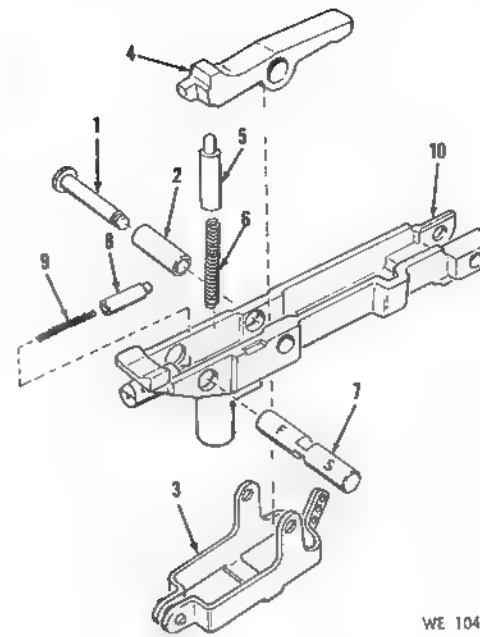

Figure 3-8. Sear and safety housing assembly—exploded view.
Broken sear.....	Replace (para 3-12 and 3-19, and fig. 3-8).
Deformed link and spring notch.....	Replace (para 3-12 and fig. 3-8).
- a. Disassembly and/or Assembly. Refer to figure 3-8.